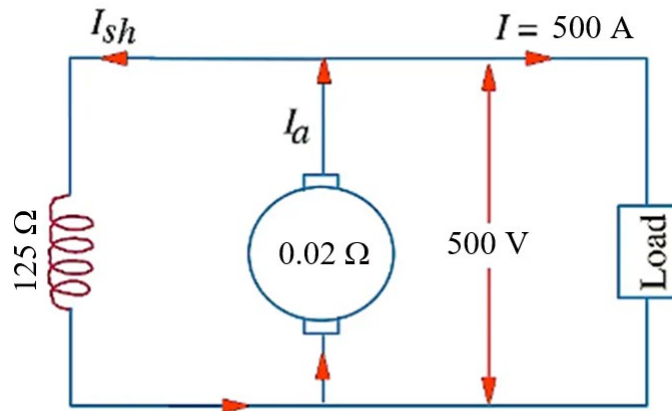

Figure B2(b) / Rajah B2(b)
- (b) Based on Figure B2(b), calculate the power developed in armature of a shunt generator.